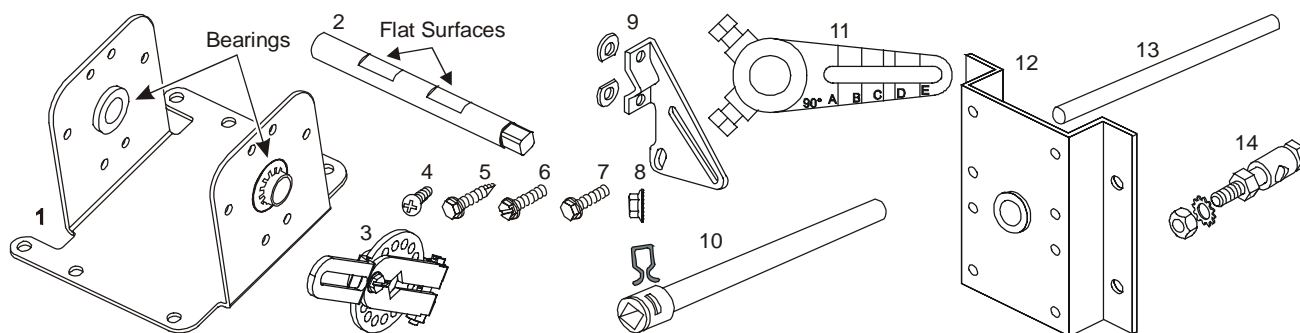

Figure 1: Components of the M9000-157 Kit
Refer to Figure 1 for a depiction and Table 1 for a detailed list of the parts included in the M9000-157 Universal Mounting Kit
2. Insert the drive shaft through the bearings (shown in Figure 1) and the actuator coupler.
3. Rotate the drive shaft so that one of the flat surfaces on the shaft (shown in Figure 1) aligns with the bottom of the coupler set screw.